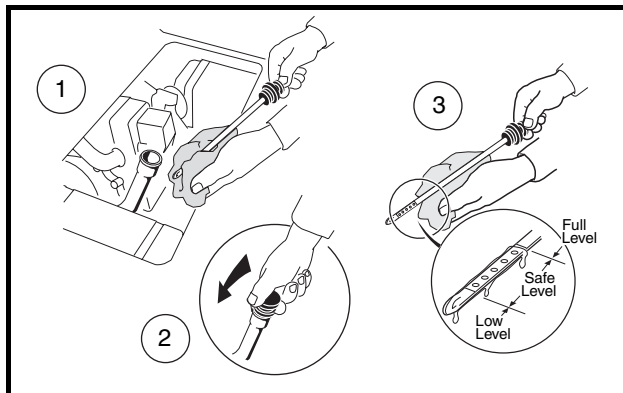

Figure 27 Engine Oil Level Check
1. Remove the oil level dipstick from the oil filler tube and wipe oil from dipstick (**Figure 27**). See following **CAUTION**.